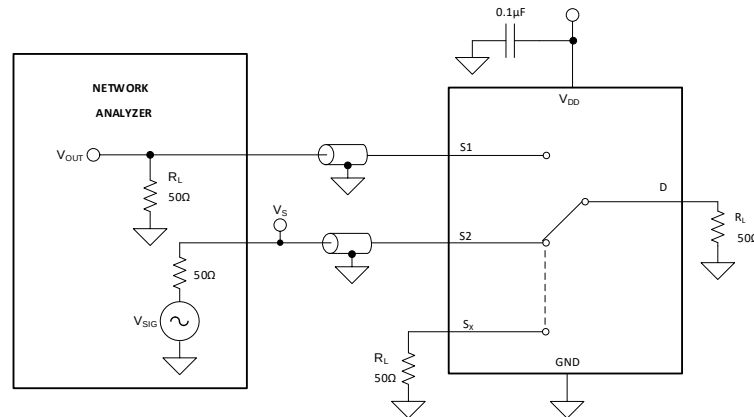

Figure 15. Channel-to-Channel Crosstalk Measurement Setup
Crosstalk is defined as the ratio of the signal at the drain pin (D) of a different channel, when a signal is applied at the source pin (Sx) of an on-channel. Figure 15 shows the setup used to measure, and the equation used to compute crosstalk.